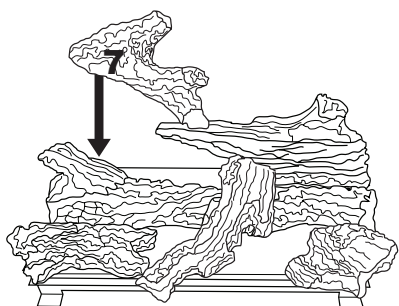

Figure 46 - Installing Log No. 7
5. Place back end of log #7 (left rear log) onto pin on left rear burner and rest front onto log #1 as shown in Figure 46, page 21.